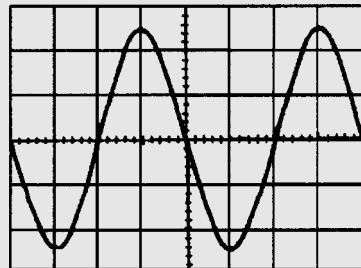

Figure RT3.1
- A conductor, 25 cm long is situated at right angles to a magnetic field. Determine the strength of the magnetic field if a current of 12 A in the conductor produces a force on it of 4.5 N. (3)
- An electron in a television tube has a charge of  $1.5 \times 10^{-19}$  C and travels at  $3 \times 10^7$  m/s perpendicular to a field of flux density  $20 \mu\text{T}$ . Calculate the force exerted on the electron in the field. (3)
- A lorry is travelling at 100 km/h. Assuming the vertical component of the earth's magnetic field is  $40 \mu\text{T}$  and the back axle of the lorry is 1.98 m, find the e.m.f. generated in the axle due to motion. (4)
- An e.m.f. of 2.5 kV is induced in a coil when a current of 2 A collapses to zero in 5 ms. Calculate the inductance of the coil. (4)
- Two coils,  $P$  and  $Q$ , have a mutual inductance of 100 mH. If a current of 3 A in coil  $P$  is reversed in 20 ms, determine (a) the average e.m.f. induced in coil  $Q$ , and (b) the flux change linked with coil  $Q$  if it is wound with 200 turns. (5)
- A moving coil instrument gives a f.s.d. when the current is 50 mA and has a resistance of  $40 \Omega$ . Determine the value of resistance required to enable the instrument to be used (a) as a 0–5 A ammeter, and (b) as a 0–200 V voltmeter. State the mode of connection in each case. (8)
- An amplifier has a gain of 20 dB. Its input power is 5 mW. Calculate its output power. (3)
- A sinusoidal voltage trace displayed on an oscilloscope is shown in Fig. RT3.1; the 'time/cm' switch is on 50 ms and the 'volts/cm' switch is on 2 V/cm. Determine for the waveform (a) the frequency (b) the peak-to-peak voltage (c) the amplitude (d) the r.m.s. value. (7)
- With reference to a p-n junction, briefly explain the following terms: (a) majority carriers (b) contact potential (c) depletion layer (d) forward bias (e) reverse bias (10)
- Briefly describe each of the following, drawing their circuit diagram symbol and stating typical applications: (a) zenor diode (b) silicon controlled rectifier (c) light emitting diode (d) varactor diode (e) Schottky diode (20)